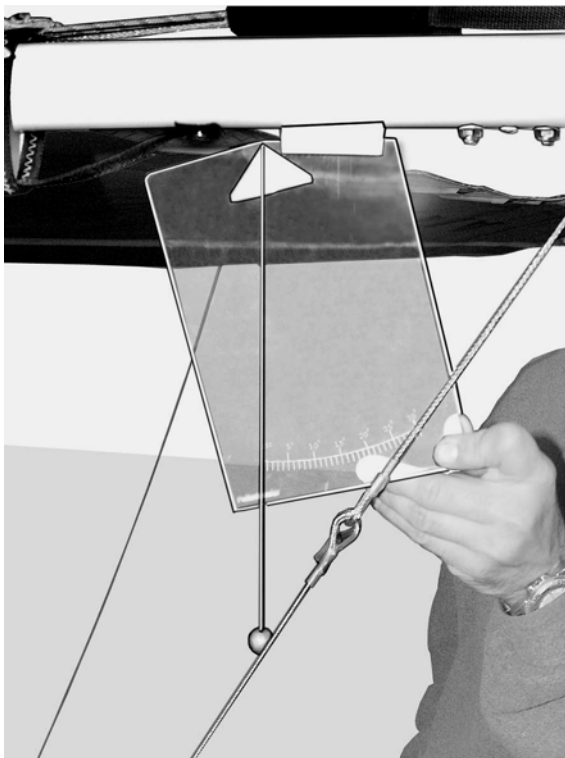

Fig. 28
2. Using the Pelicciometer as shown on fig. 28 set the keel tube horizontal (0 deg. on the Pelicciometer) and put a keel tube on a support to maintain 0 deg. angle during further measurements.